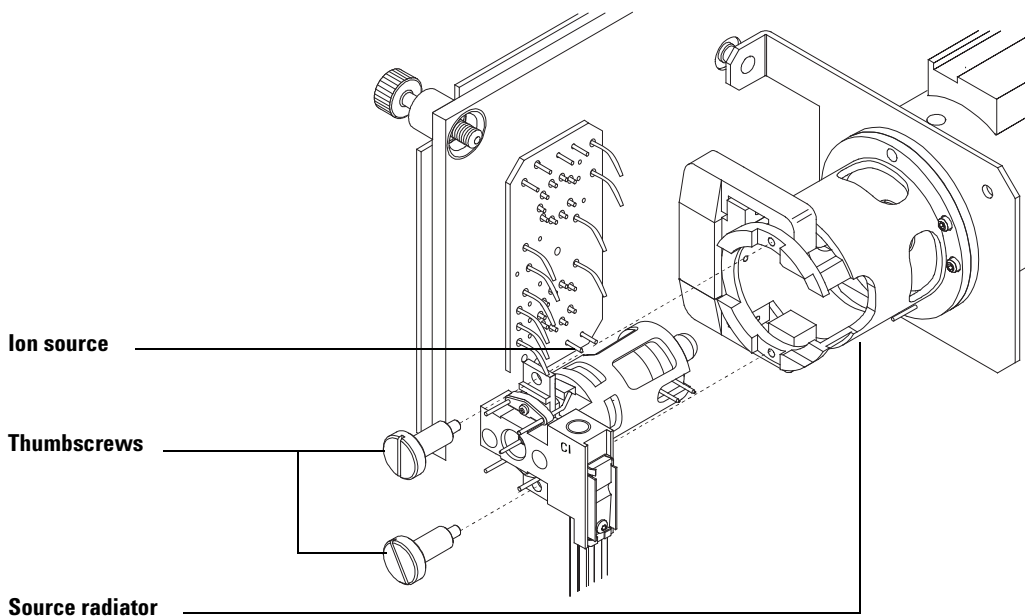

Figure 74 Installing the CI source
- 3 Slide the CI source into the radiator. (See Figure 74.)
- 4 Install the thumbscrews. (See Figure 74.)